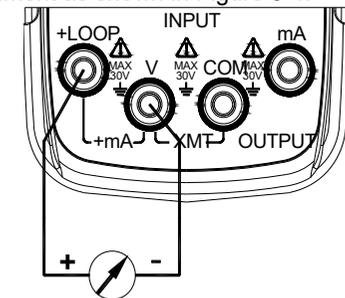

Figure 5-1
- 1) Insert one end of the test leads to the + mA – output jack (OUTPUT) of the Instrument and connect the other end with the input of the user's Instrument as shown in Figure 5-1:
- 1) Connect to the Instrument as shown in Figure 5-1;
- 3) Press the key (25%/RAMP) and the symbols 'F' and '▲' will appear;
- 3) Press the key (100%/START) and the symbols 'F', '▲', '0', 'FS' will appear in the display;
- 5) Reprress the key (100%/START) so as to exit the step current output.
- 1) Connect as shown in Figure 5-1;
- 4) Repress the key (25%/RAMP) again so as to change the type of the output ramp, which finds itself in the lower left of the LCD. The type appears with 'A S', 'F', 'A F', in proper order. These symbols denote a low speed ramp and a high speed ramp respectively. The former is set to a cycle up to 60S and the latter is up to 30S, while the auto-stair step ramp pauses 5 seconds at each step;
- 5) Press the key (100%/START) to start the output of the set waveform when the symbol 'ON' appears. Now repress the key (100%/START) again and the output will pause on a current value and the symbol 'OFF' will appear. Then press the same key again and the output will continue to do the set steps from the pause value. When the symbol 'OFF' appears, press any one of the keys (◀), (▶), (▲), (▼) so as to bring the output back to the 0%. Then the value of 4mA appears in the display.